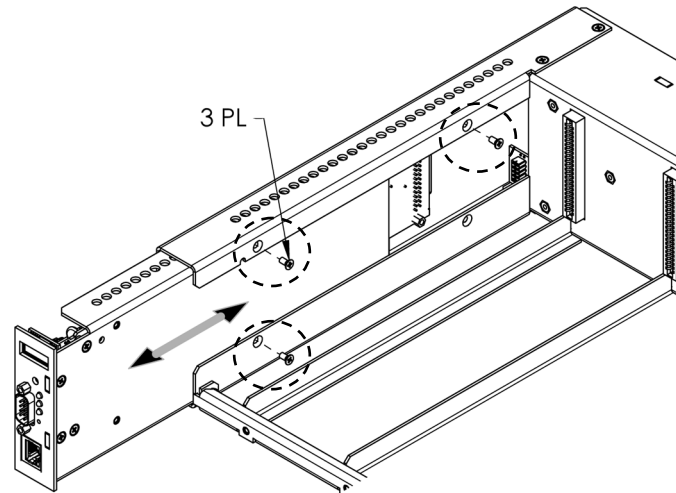

Figure 8—Showing CXCI removal and replacement
8. Remove the three mounting screws shown in Figure 8.